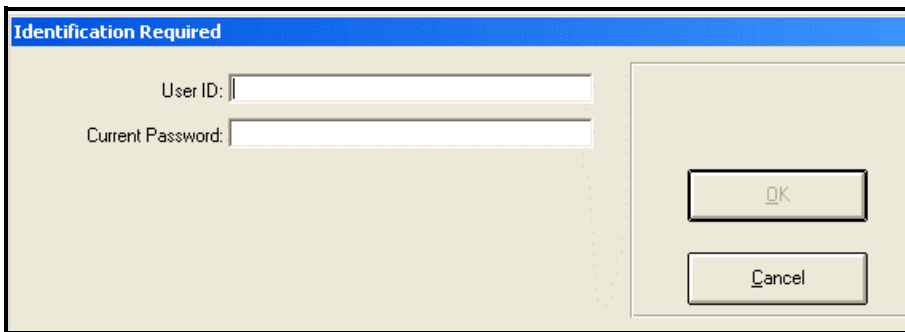

Figure 14: Identification Required Box
4. The identification required dialog box (shown in Figure 14 below) appears.